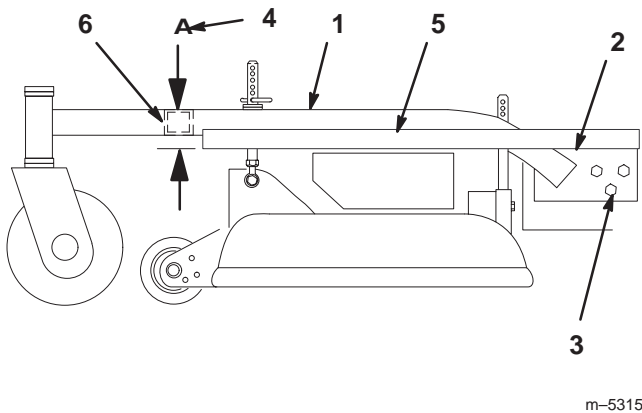

Figure 46
2. Place a long straight edge on top of the engine deck as shown in figure 46.
3. At the carrier frame cross tube, measure location "A" height (Fig. 46). This measurement must be 2-13/16 in. (71 mm), plus or minus a 1/4 in. (6 mm).
5. Loosen the carrier frame mounting bolts on both sides of the machine (Fig. 46).
6. Align the carrier frame and engine deck to match 2-13/16 in. (71 mm), plus or minus a 1/4 in. (6 mm) at location "A" (Fig. 46).